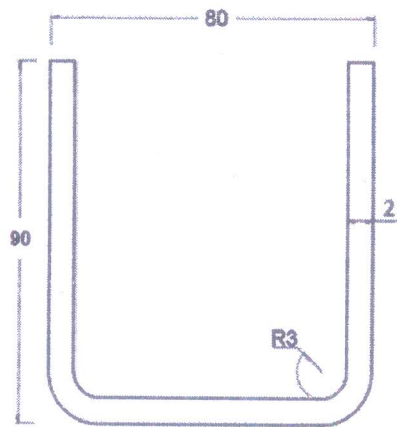

Fig No.2
3. (a) A circular cup as shown in figure no. 2 is manufactured by using deep drawing operation. (Material: MS Cup, Thickness: 2mm, Yield Strength: 35 kgf/mm²). Determine following. 20